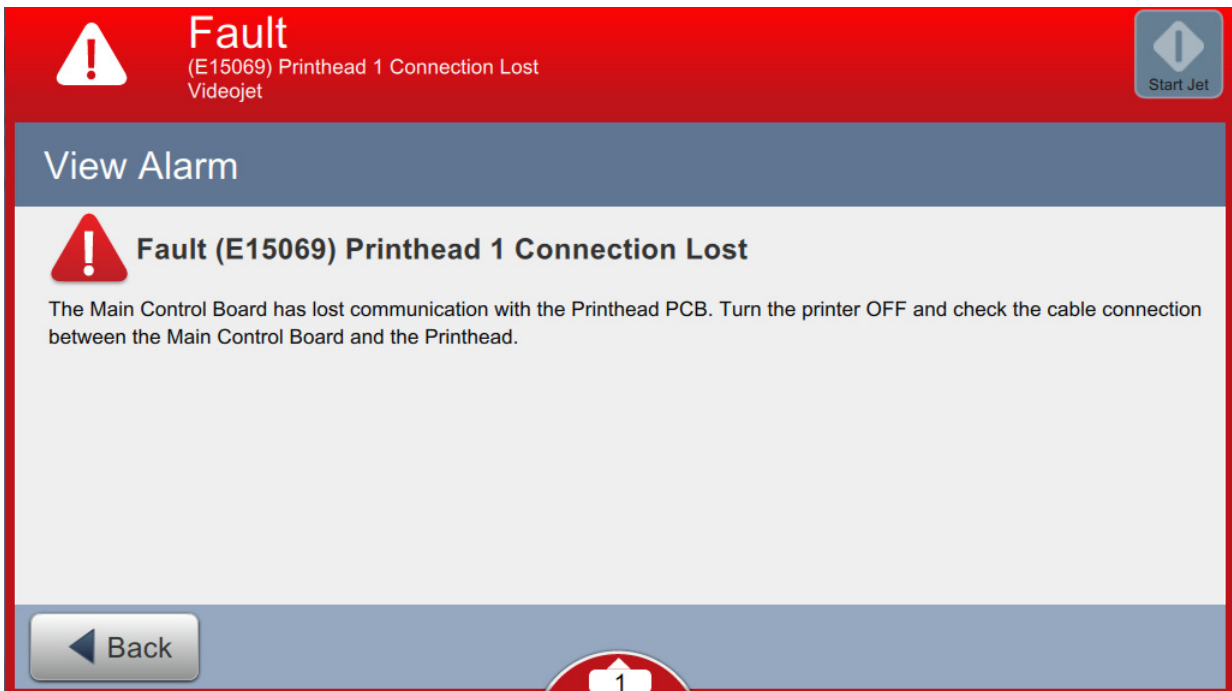

Figure 8-6: Fault List
1. Touch the  on the status bar to view the list of uncleared faults (Figure 8-6).